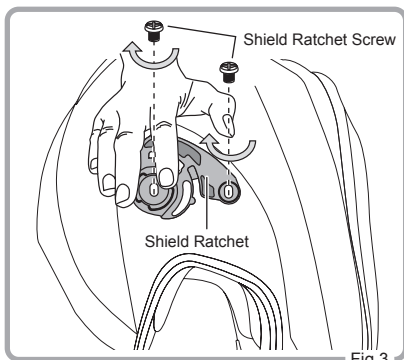

Fig.3
3. Fasten both Shield Ratchet Screws clockwise securely. Repeat the same procedure on the other Shield Ratchet. Then the Shield Ratchets are installed (Fig. 3).